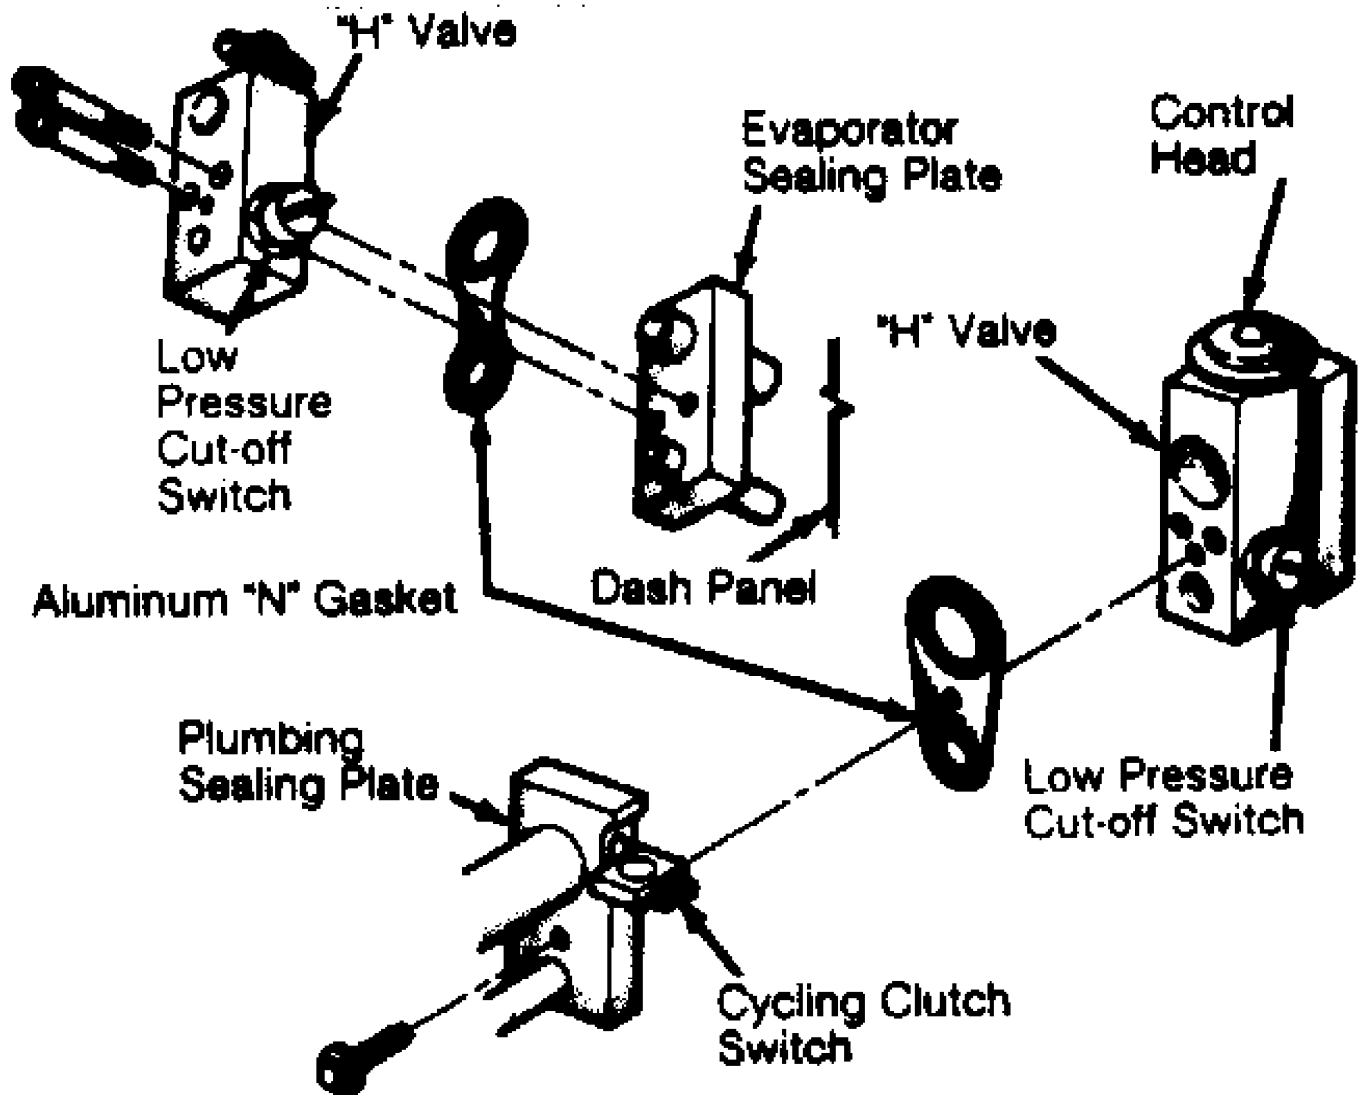

Fig. 2: Removal of Expansion Valve ("H" Type)
2) Remove 2 Torx head cap screws while holding valve in place. Carefully remove valve. See Fig. 2. To install, replace 2 aluminum "N" gaskets and reverse removal procedure.